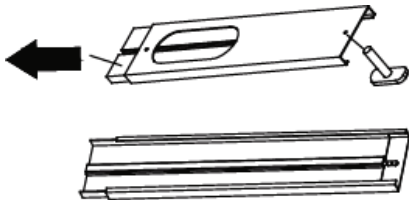

Fig. 2
- Separate the wing screw set (27) in its component parts.
- Pull the inner part of the window channel (19) out until the drill hole in the outer part is exposed. Run the screw through the drill hole (Fig. 2) paying attention to the direction.